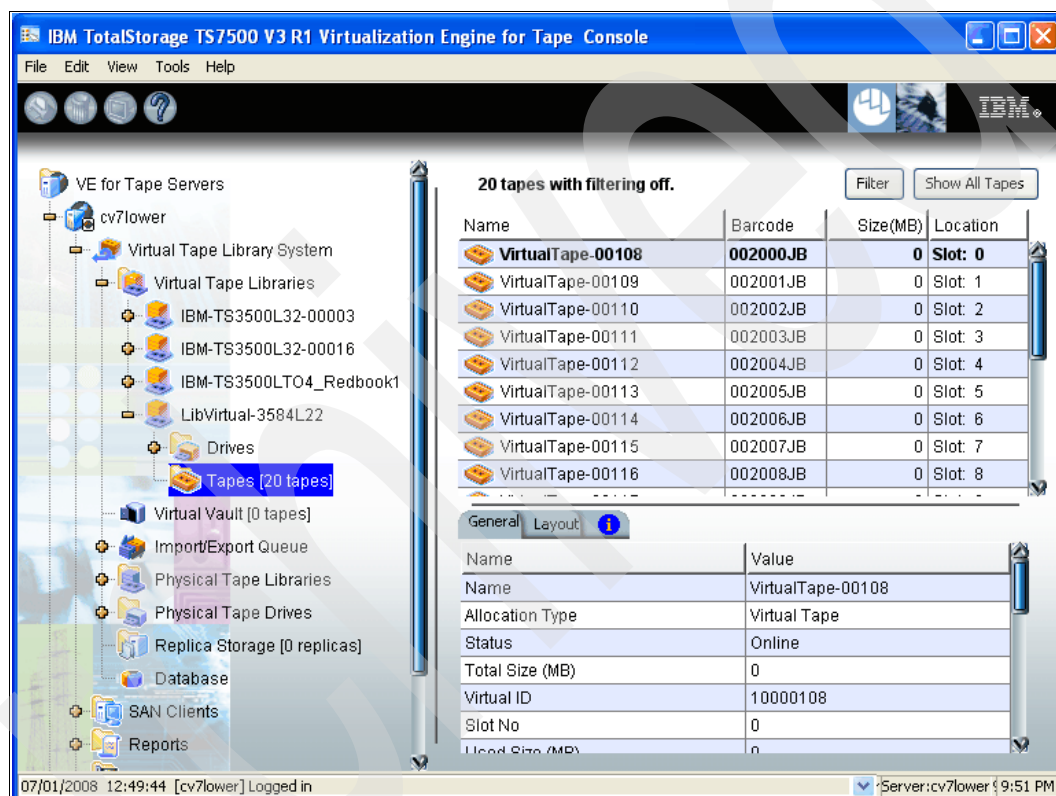

Figure 6-47 Cached virtual library creation: Review newly created virtual library
14. Review the status of the newly created library and drives (Figure 6-47).
In Figure 6-47 notice that the size column shows a size of 0 MB. The TS7530 VE for Tape server only allocates space for a virtual volume when it is first mounted.